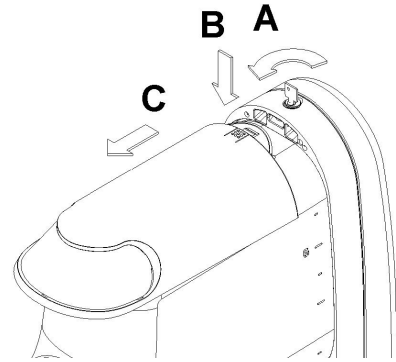

figure 7
- 1 To remove the lid of the container, press the top button and slide the lid towards the front of the container. If there is a safety lock for the lid, turn the key in a counter-clockwise direction to release the open button (see figure 7).